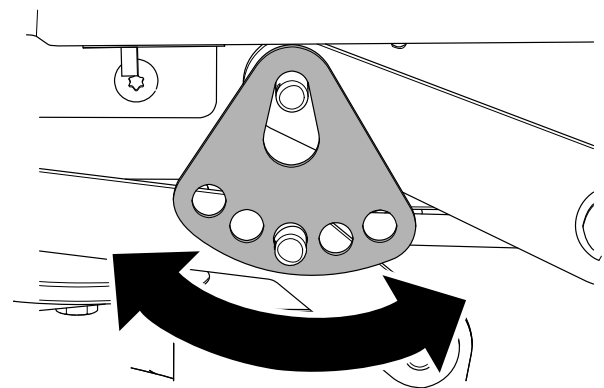

Figure 69
7. Rotate the height-of-cut plate to a different hole so that it supports the weight of the mower deck after you install the plate (Figure 69).
8. Install the washer and hairpin cotter (Figure 69).